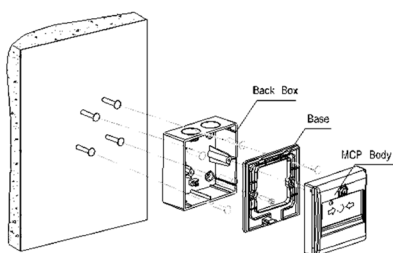
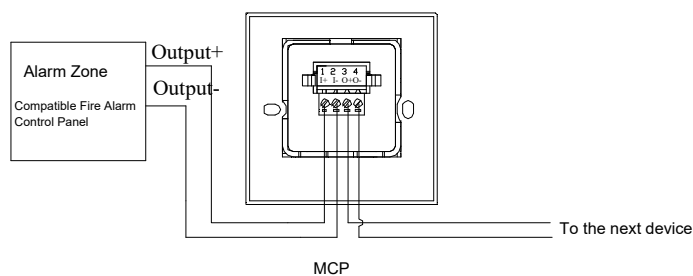
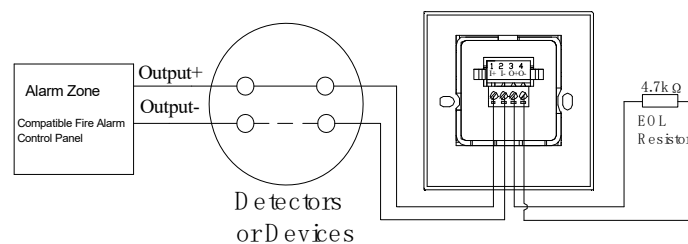

Fig. 1
Fig. 3
Fig.4
First install the back box onto the wall using 4 screws, then install the base onto the back box. Connect cables to corresponding terminals as Fig.3. Hook the juts of the MCP body to the base, and then press the part below the action plate to combine them completely. Fig.1 shows surface mounting.
Install the base onto the back box. Then combine the enclosure and base the same as surface mounting. Fig. 3 shows flush mounting.
- ◇ Application of the MCP is shown in Fig. 3 & Fig.4